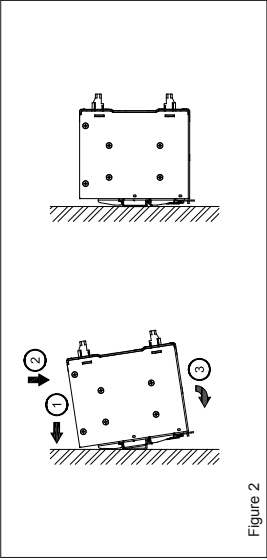

Figure 2
- 3. Mounting (Fig. 2)**
- Snap on the DIN rail as shown in Fig. 2: